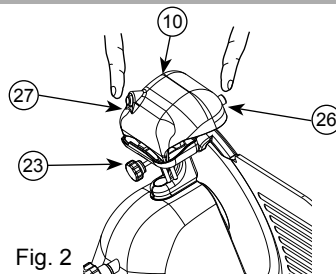

Fig. 2
• Unplug. • Check that the movable bulkhead (2) is closed (graduated knob (6) in position "0"). • Carefully clean the part of the blade to be sharpened. • Reinsert the plug. • Loosen the locking knob (23) of the sharpener group (10). • Raise the sharpener group (10), turning it by 180° (see Fig.1) so that both wheels are in working position. (see Fig.2). • Lower the sharpener group (10) until it locks. • Secure the group by turning the locking knob (23). • Switch on. • Press button (27) and let the blade turn for about 1 minute. • When the blade is still, check to see if any burr has formed on the edge. • After having verified the presence of burr, switch on and gently press button (26) for about 3 seconds to remove the burr produced during sharpening. • Put the graduated knob (6) back to "0" position. • After sharpening, move the sharpener group (10) back to its original position (see Fig.3) and clean the edge of the blade and the wheels by alcohol and a brush.